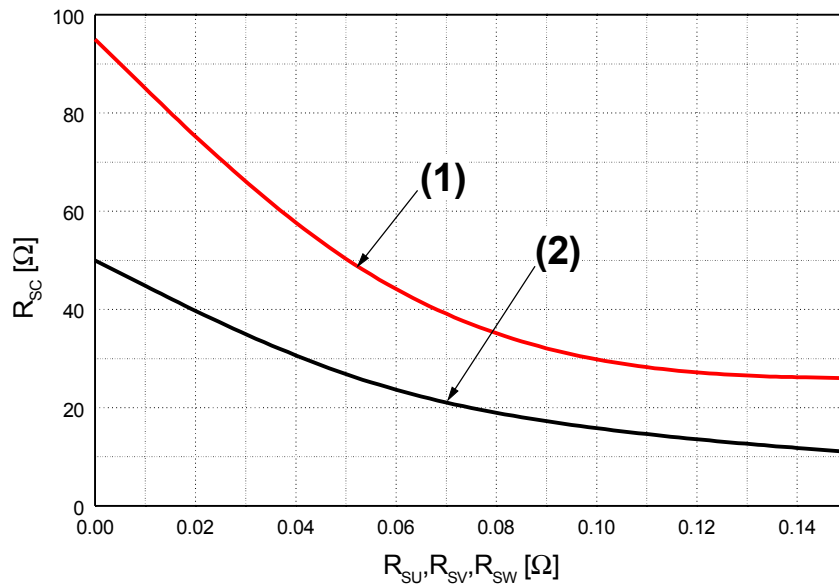

Fig. 7. R_{SC} Variation by change of Shunt Resistors (R_{SU} , R_{SV} , R_{SW}) for Short-Circuit Protection
5. Short-circuit current protection is functioning only at the low-sides. It would be recommended that the value of the external sensing resistor (R_{SC}) should be selected around 50 Ω in order to make the SC trip-level of about 15A at the shunt resistors (R_{SU}, R_{SV}, R_{SW}) of 0 Ω . For the detailed information about the relationship between the external sensing resistor (R_{SC}) and the shunt resistors (R_{SU}, R_{SV}, R_{SW}), please see Fig. 7.